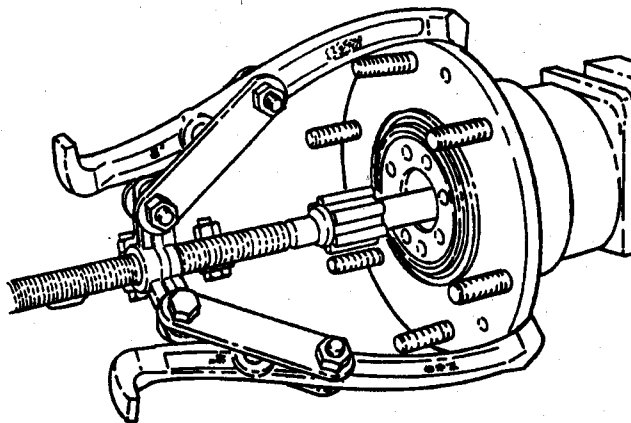

Figure 7.
9. Remove planet gears (25), (28), and bearings (26).
10. Remove ring gear (16). Unscrew and remove four bolts (31), retaining ring (15), and ring gear support (13).
11. Using a suitable puller and center pad (Figure 7), remove the hub carrier (7, Figure 5), from lateral axle housing (1). If the axle is still on the machine, the half shaft may be used in place of the center pad.